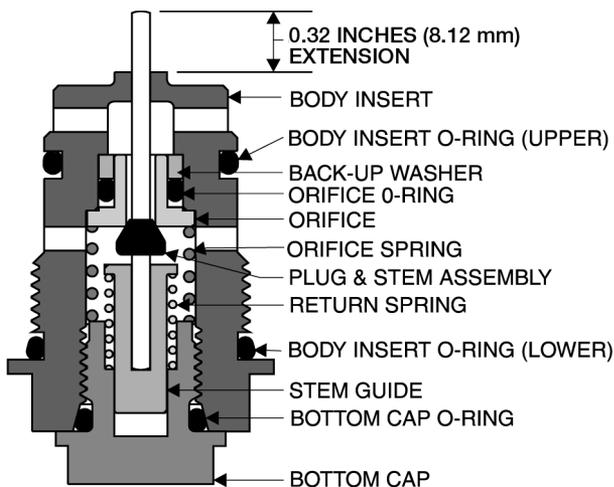
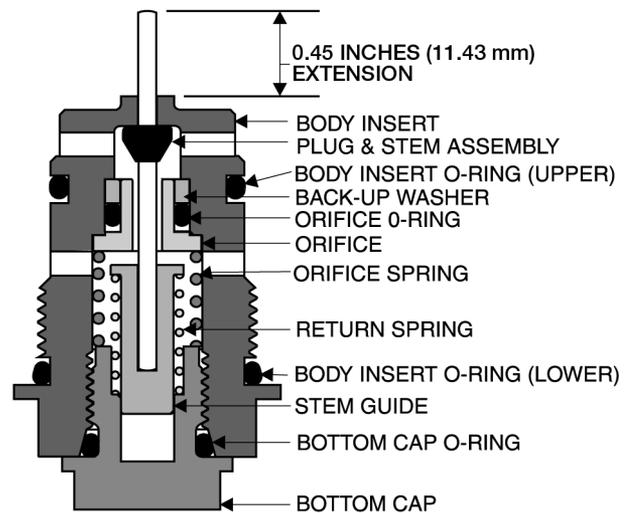
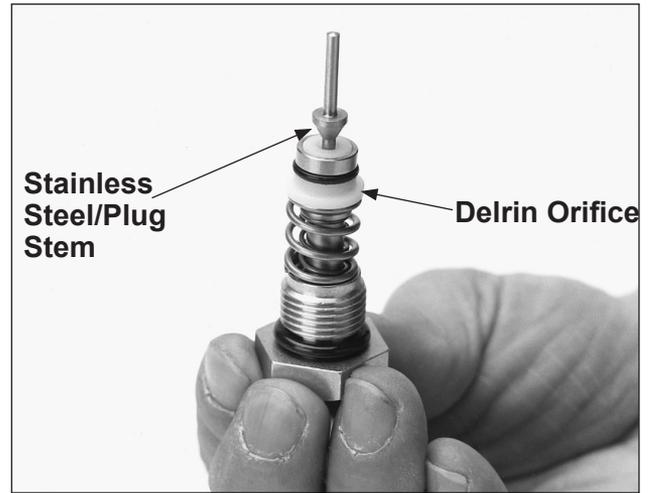

Figure 18
Figure 20
Figure 26
3. **CONTROL ACTION:** Inspect to make sure the Body Insert Assembly (Cartridge) is in the correct operational mode. Remove the Body Insert Assembly and measure the stem extension from the Body Insert. (Refer to the Maintenance section of this manual - Figure 18 & Figure 20, page 10.)
7A. Refer to Figure 18 & 19. Stack the following parts on the Bottom Cap in the order shown in the drawing:
7B. Refer to Figure 20 & 21. Stack the following parts on the Bottom Cap in the order shown in the drawing:
Note: The plug on the Stem will be ABOVE the Orifice Assembly for a Back Pressure or Relief Mode (Refer to Figure 20).
The plug will be BELOW the Orifice for the Pressure Reducing Mode (Refer to Figure 18).
Measure the stem extension. (See Figure 18 & Figure 20)
7. The Series 20H and 20HS Pilots in back pressure mode require a Delrin orifice and all stainless steel plug and stem in the Body Insert (Cartridge). Assemble the orifice assembly the same way you would the Back Pressure Body Insert (Cartridge) with the stainless steel orifice and nitrile plug and stem assembly. (Refer to Figure 20 & Figure 26).